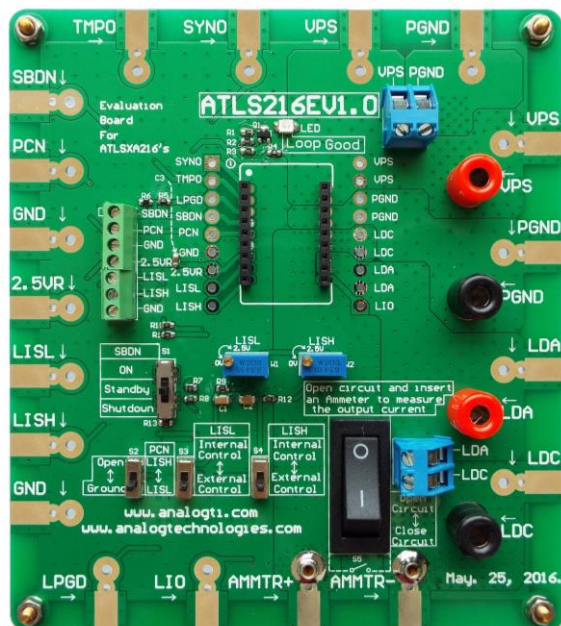
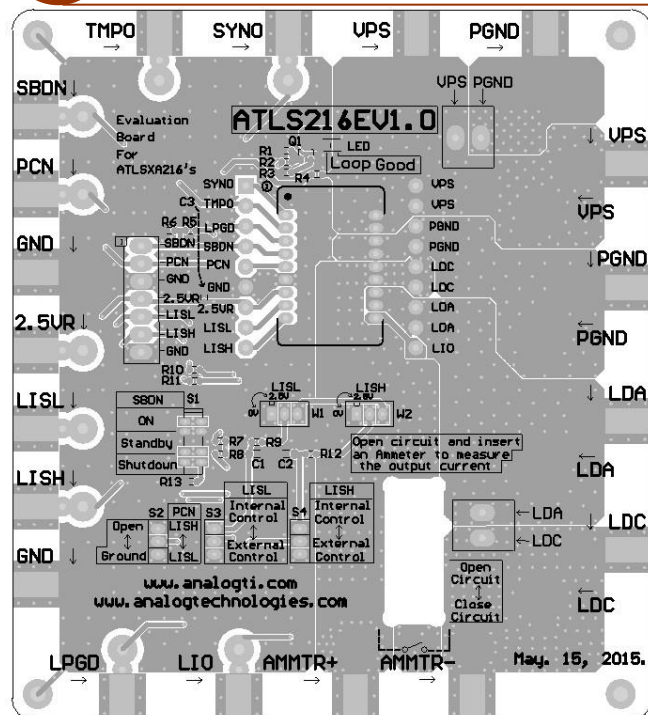
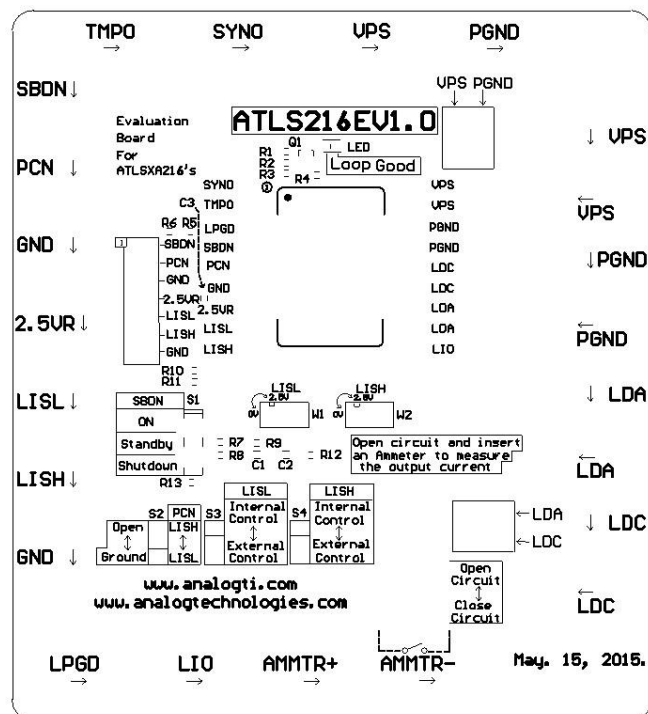

Figure 1. Physical Photo of ATLS216EV1.0
Figure 2. Top Silkscreen Layer with Other Top Layers
Figure 3. Top Silkscreen
This evaluation board is shown in Figure 1. On the 4 edges of the board, it features solder pads for all the interface ports provided by the laser driver. The solder pads can be used by clips or soldered with wires for connecting to external circuits. The power supply input is connected on the upper edge of the board. The incoming wires can be soldered on the pads, or clipped by alligator clips, or use the terminal block and tight the wires by the screws. In the upper middle of the board, there is an LED. When the controller works properly, it will be lit up. On the left side of the controller, there is a terminal block. It can be used for connecting wires going into the ports of the laser driver. On the lower side of the laser driver, there are 2 POTs (Potentiometers) for setting the lower and upper values of the set-point current. When the laser driver uses these POTs for setting the current
values, push down the 2 switches below the POTs, see Figure 1 and Figure 2; when using external signals to modulate the laser driver output current, leave the 2 switch knobs onto the upper position, as marked on the board. The lower left corner switch is for selection which of the control ports is used for setting the laser driver current: LISL or LISH. The output current can be measured by a current meter, which can be inserted between the 2 multi-meter lead sockets: AMMTR+ and AMMTR-, which is located on the lower edge of the board. When an Ammeter is inserted into the circuit, turn switch S5 onto the upper position, the open circuit the meter leads, so that the current will go through the meter, thus the current will be measured. When the Ammeter is absent, turn the switch S5 down, to short circuit the current meter terminals so that the current will go through the switch to close the circuit.
The silkscreen layer of the evaluation board is shown in Figure 2 with other top layers, including top silkscreen, top copper, top solder mask, and multilayer (vias). Figure 3 shows the image of top silkscreen layer only.
1. Hook up the power supply. There are 2 solder pads in the upper right area on the edge for connecting the power supply. The connection can be done by clipping or soldering on the pads, or locking in 2 wires through the terminal block 2TB by tightening the 2 screws, see Figure 1. The power supply can set to between 4.5V and 16V. When using a lower voltage power supply, the power consumption of the driver will get smaller, thus, the driver will be working at higher efficiency. But the voltage has to be at least 1V higher than the laser diode forward voltage value, otherwise, the output current is out of control by the laser driver.